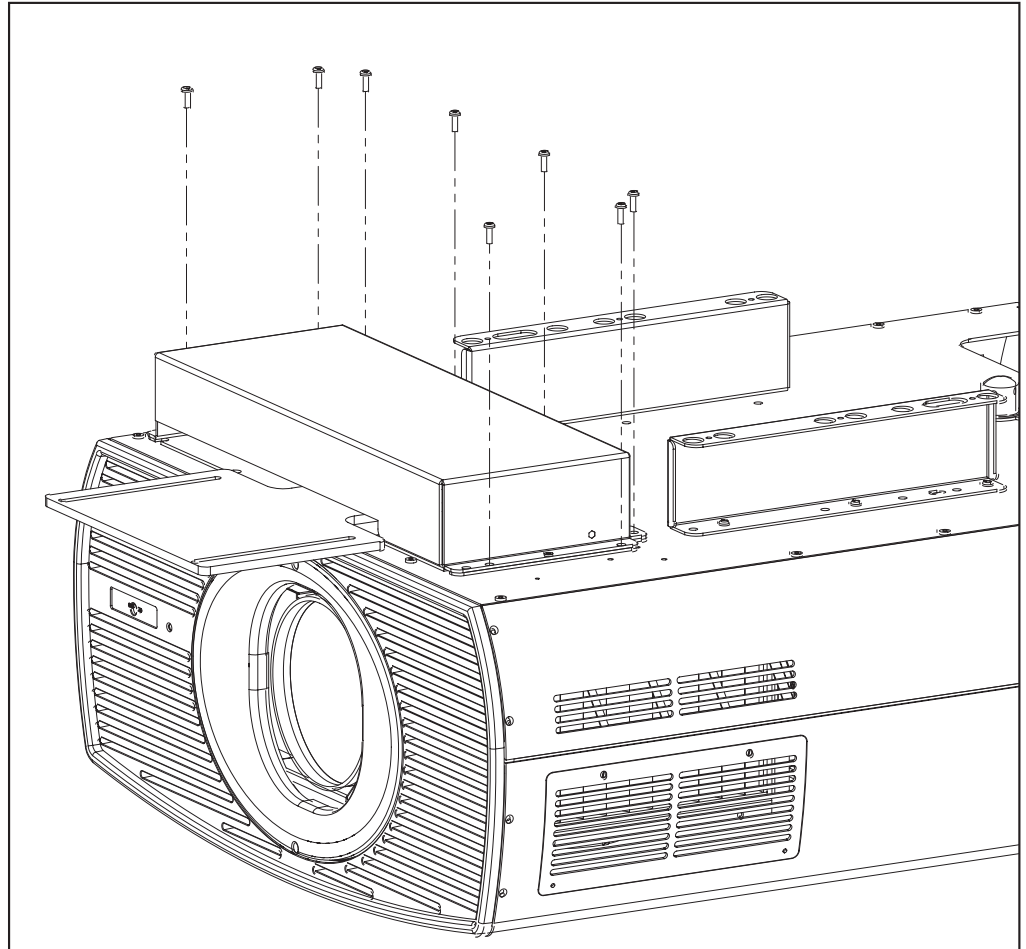

Figure 3-8. AutoScope Lens Motor Installation
Install Lens Motor: Position the AutoScope Lens Motor (item #1) as shown in Figure 3-8. Line up the mounting holes on the lens motor housing with those on the underside of the projector. Secure the motor to the projector with the eight (8) remaining M6 x 12mm Pan-Head Phillips screws (item #2).